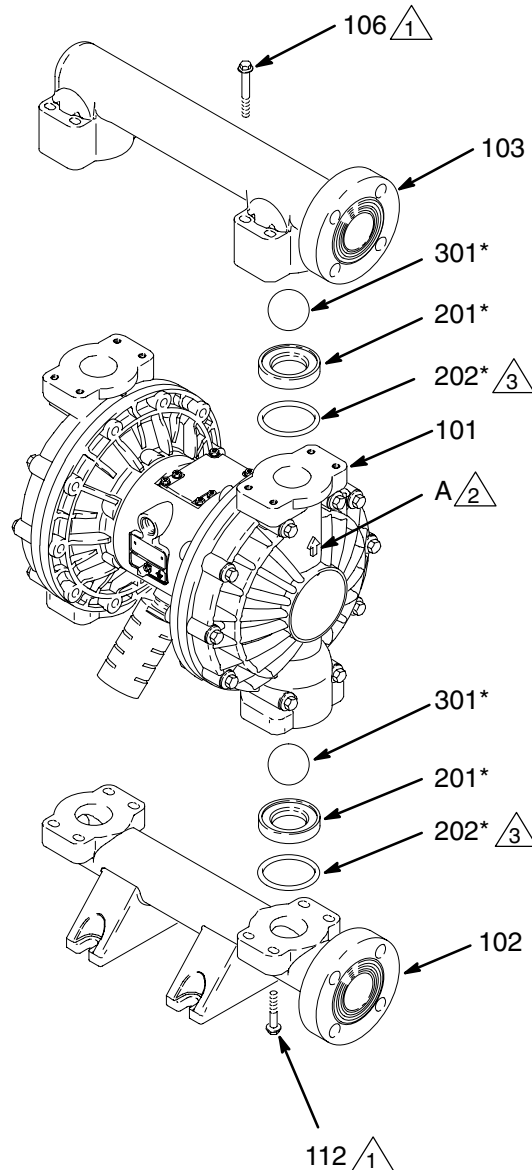

Fig. 11
3. Using a 10 mm socket wrench, remove the eight bolts (106) holding the outlet manifold (103) to the fluid covers (101). See Fig. 11.
4. Remove the seats (201), balls (301), and o-rings (202) from the manifold.
**NOTE:** Some models do not use o-rings (202).
5. Turn the pump over and remove the bolts (112) and inlet manifold (102). Remove the seats (201), balls (301), and o-rings (202) from the fluid covers (101).
2. Reassemble in the reverse order, following all notes in Fig. 11. Be sure the ball checks are assembled **exactly** as shown. The arrows (A) on the fluid covers (101) **must** point toward the outlet manifold (103).
- ⚠2 Arrow (A) must point toward outlet manifold (103).